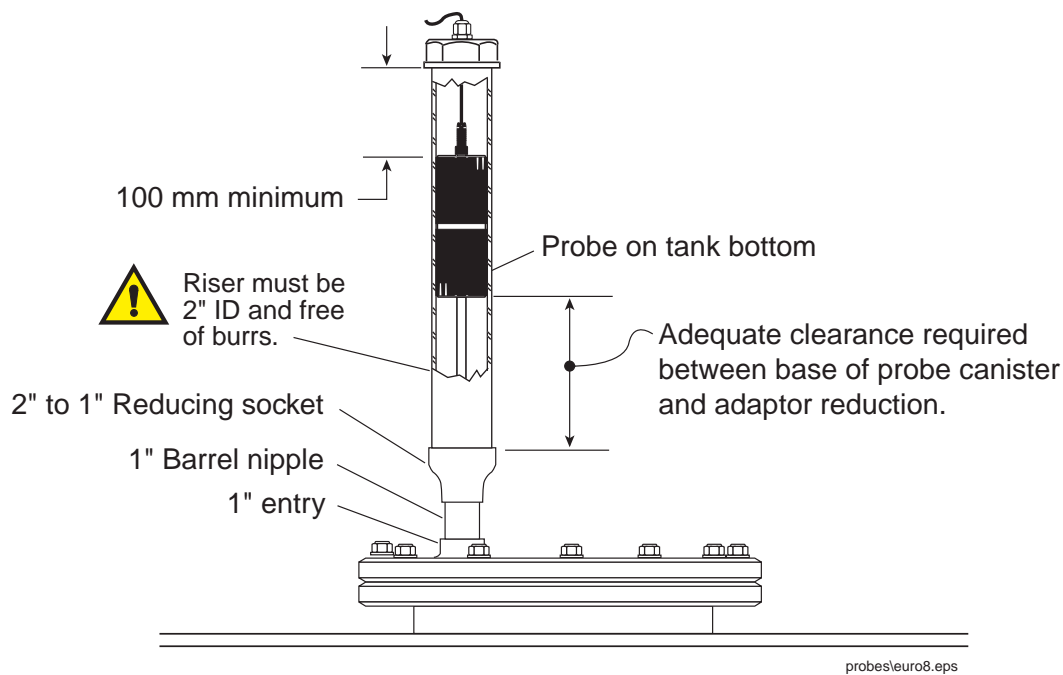

Figure 5. Canister clearance for 1-inch entries
- Probes specified for tanks with 1-inch entries must always be long enough to rest on the tank bottom and not 'hang' in the riser adaptor (see Figure 5).